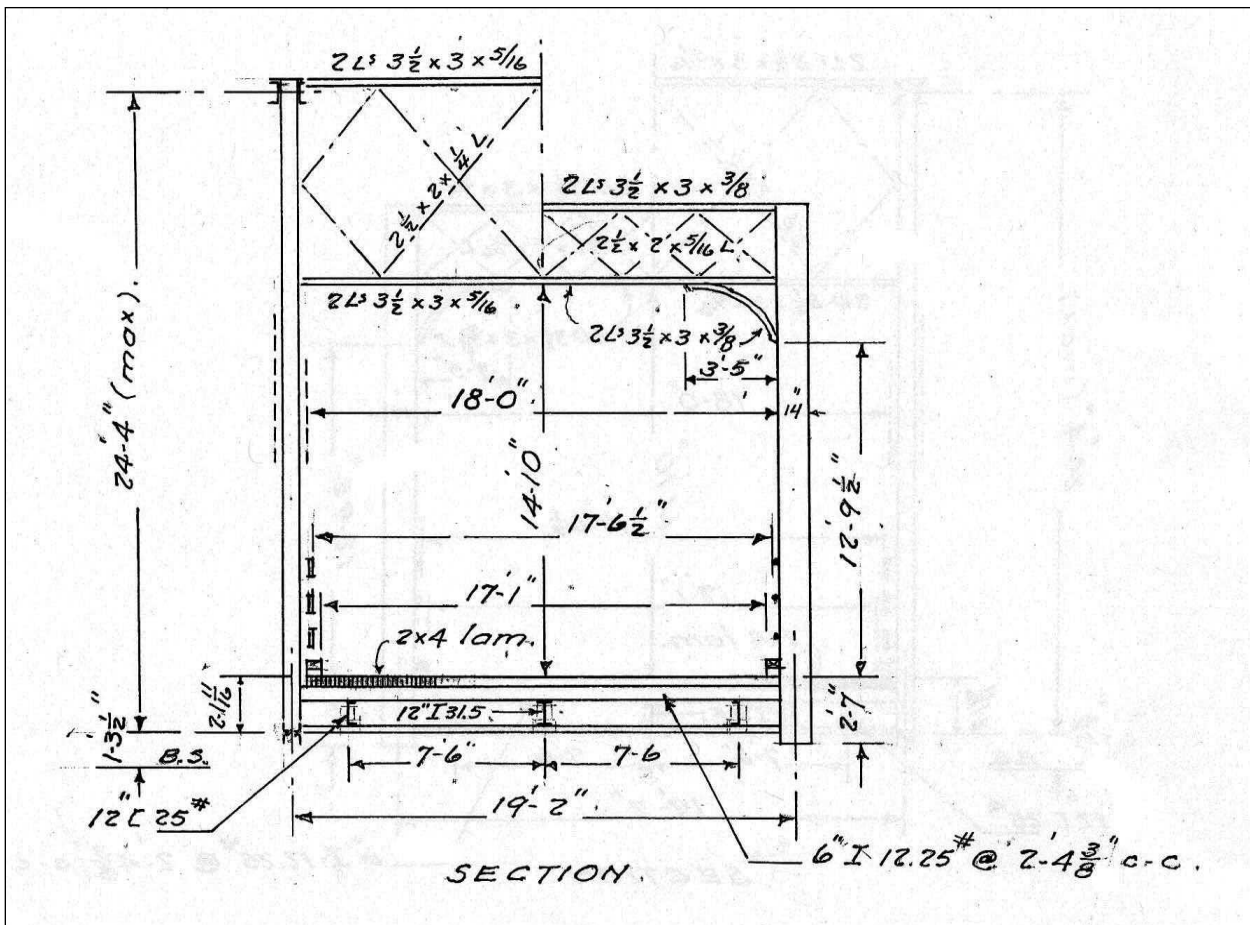

FIGURE 8: Boscawen-Canterbury 132/085 (1906). Section sketch (NHHD Bridge Inventory Card).
- FIGURE 8: Boscawen-Canterbury 132/085 over Merrimack River, 1907, drawing.